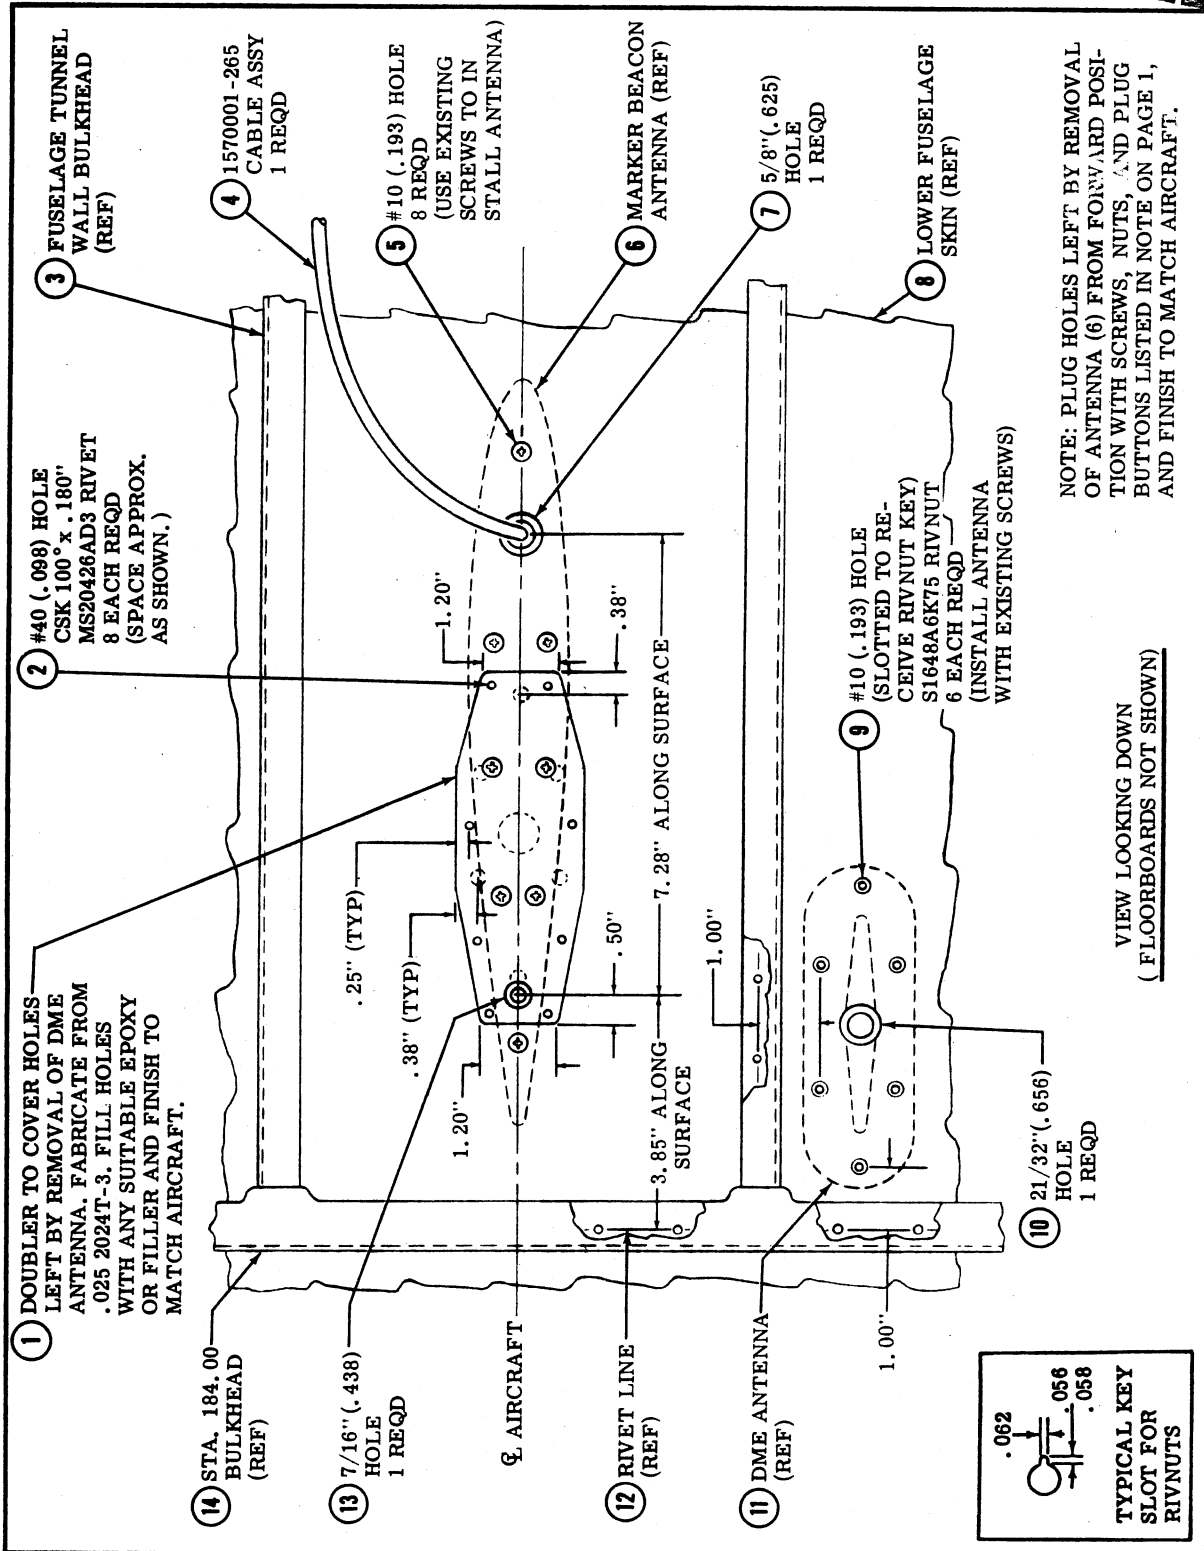

Figure 2. Antenna Relocation
- (1) Check location of marker beacon antenna and relocate, if necessary, in accordance with figure 2 and section 2. b. of installation instructions.
- (2) If aircraft is not equipped with a cabin step, fabricate and install a cover for cabin step opening in RH side of cargo pack.
- (3) If aircraft is equipped with a cabin step, remove step (10) from strut (2) projecting through hole in seal (1).
- (4) Align center line of pack assembly (5) with center line of aircraft, and cutouts (3) with lower wing strut fittings.
- (5) While pack assembly is being held in position, place a board crosswise under pack assembly, and using a jack, support the pack assembly firmly against the lower fuselage skin.
b. Radio Antenna Relocation. (Refer to figure 2.)